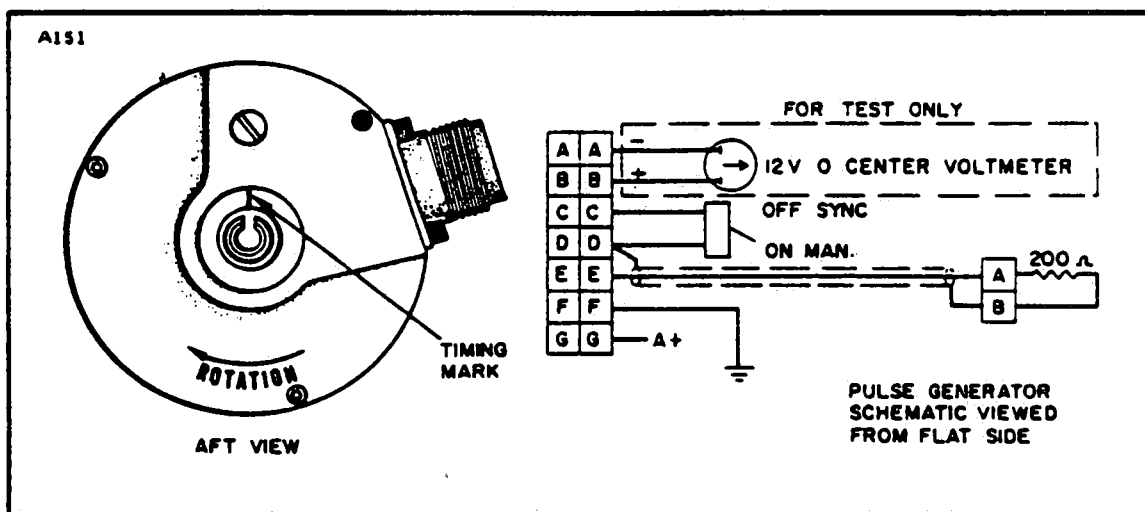

Figure 14-6. Pulse Generator
**14-28. INSTALLATION AND ADJUSTMENT OF PULSE GENERATOR.** (Refer to Figure 14-6.)